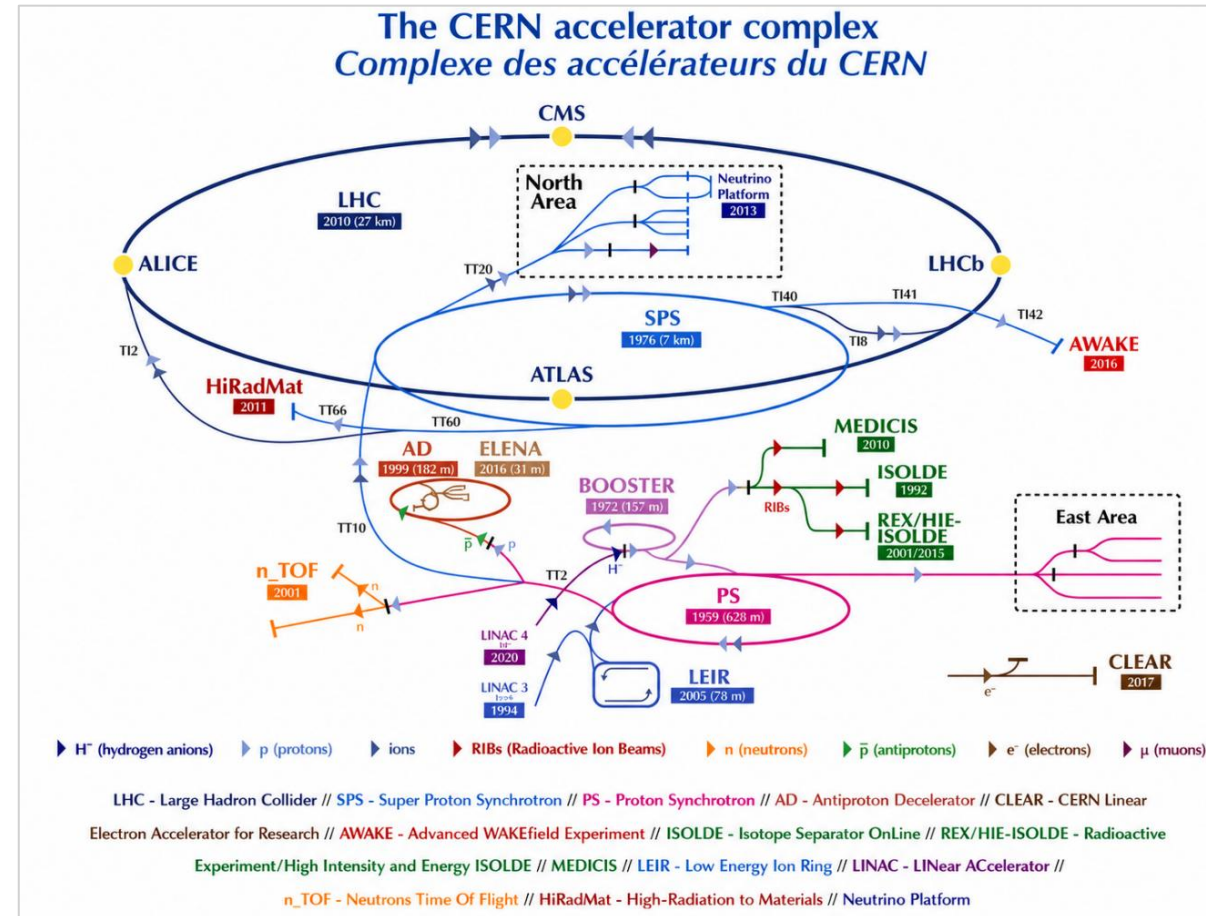

Figure 1: CERN's Accelerator Complex
- Figure 1 shows the CERN's accelerator complex and how its interconnected.